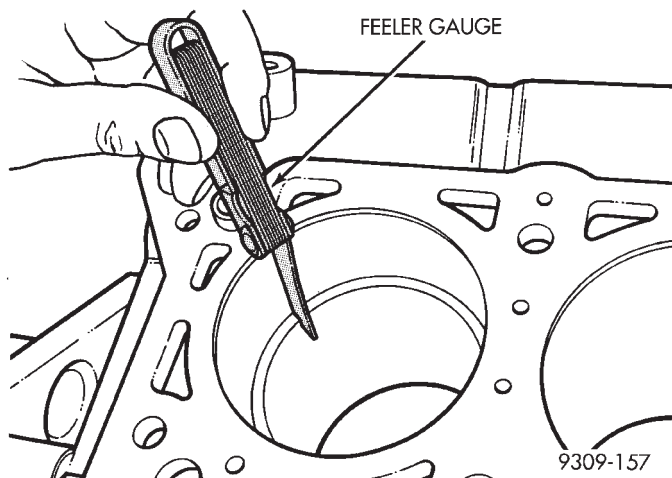

Fig. 5 Piston Ring Gap
(1) Wipe cylinder bore clean. Insert ring and push down with piston to ensure it is square in bore. The ring gap measurement must be made with the ring positioning at least 12 mm (0.50 inch) from bottom of cylinder bore. Check gap with feeler gauge (Fig. 5). Refer to specification in piston ring specifications table.